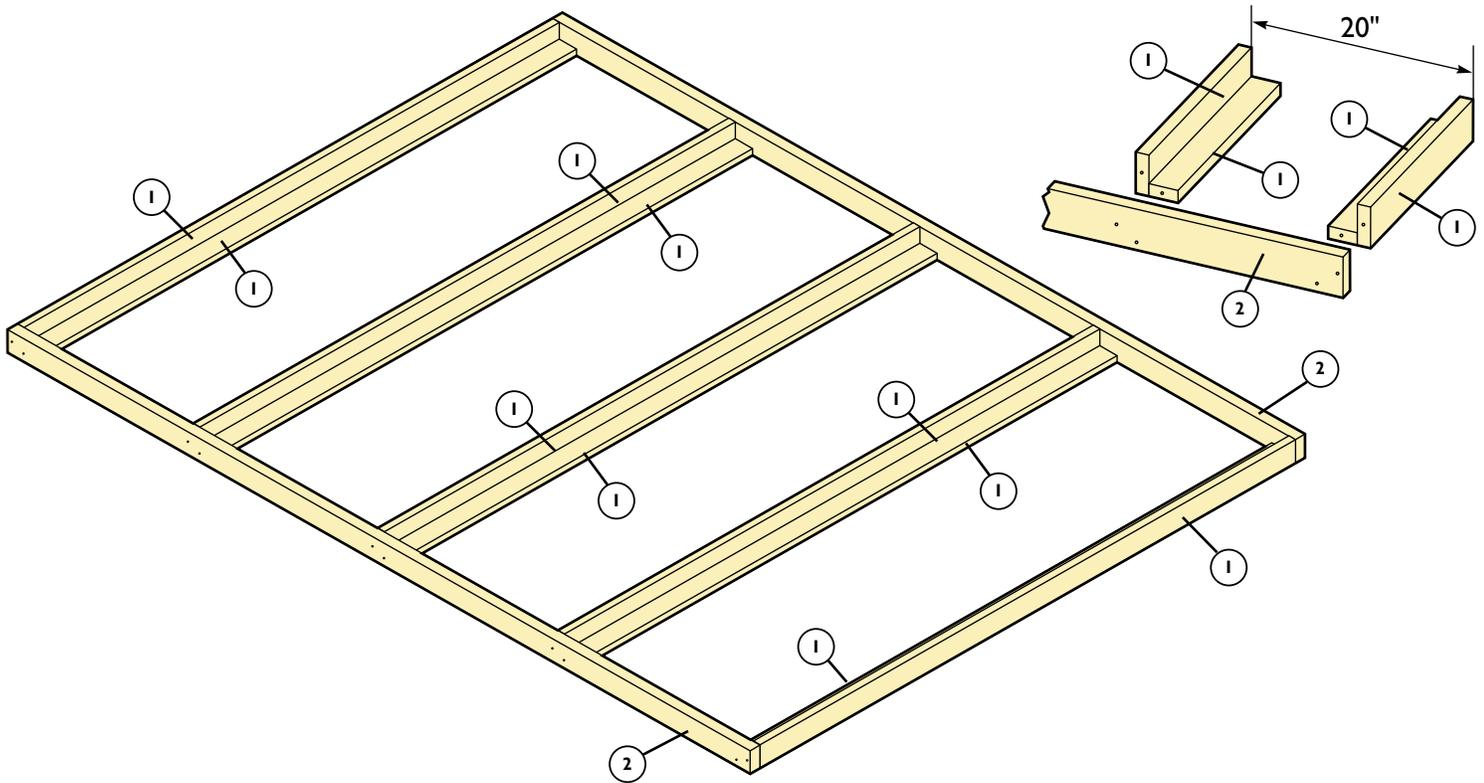

Fig. 1 - Inner Bed Frame
1. Arrange two Inner Bed Frame Strut Pieces (1) into an "L" shape to make the Frame Struts. Make sure the ends are flush, then drill 1/8" pilot holes about 8" apart and join the pieces with 1 5/8" Coarse Thread Screws (45). Repeat to make four other Frame Struts.
2. Position the Frame Struts between the Inner Frame Sides (2) 20" apart. **Fig. 1.** Drill pilot holes through the Inner Frame Sides (2) into each end of the Frame Struts and attach with 2" Coarse Thread Screws (46).